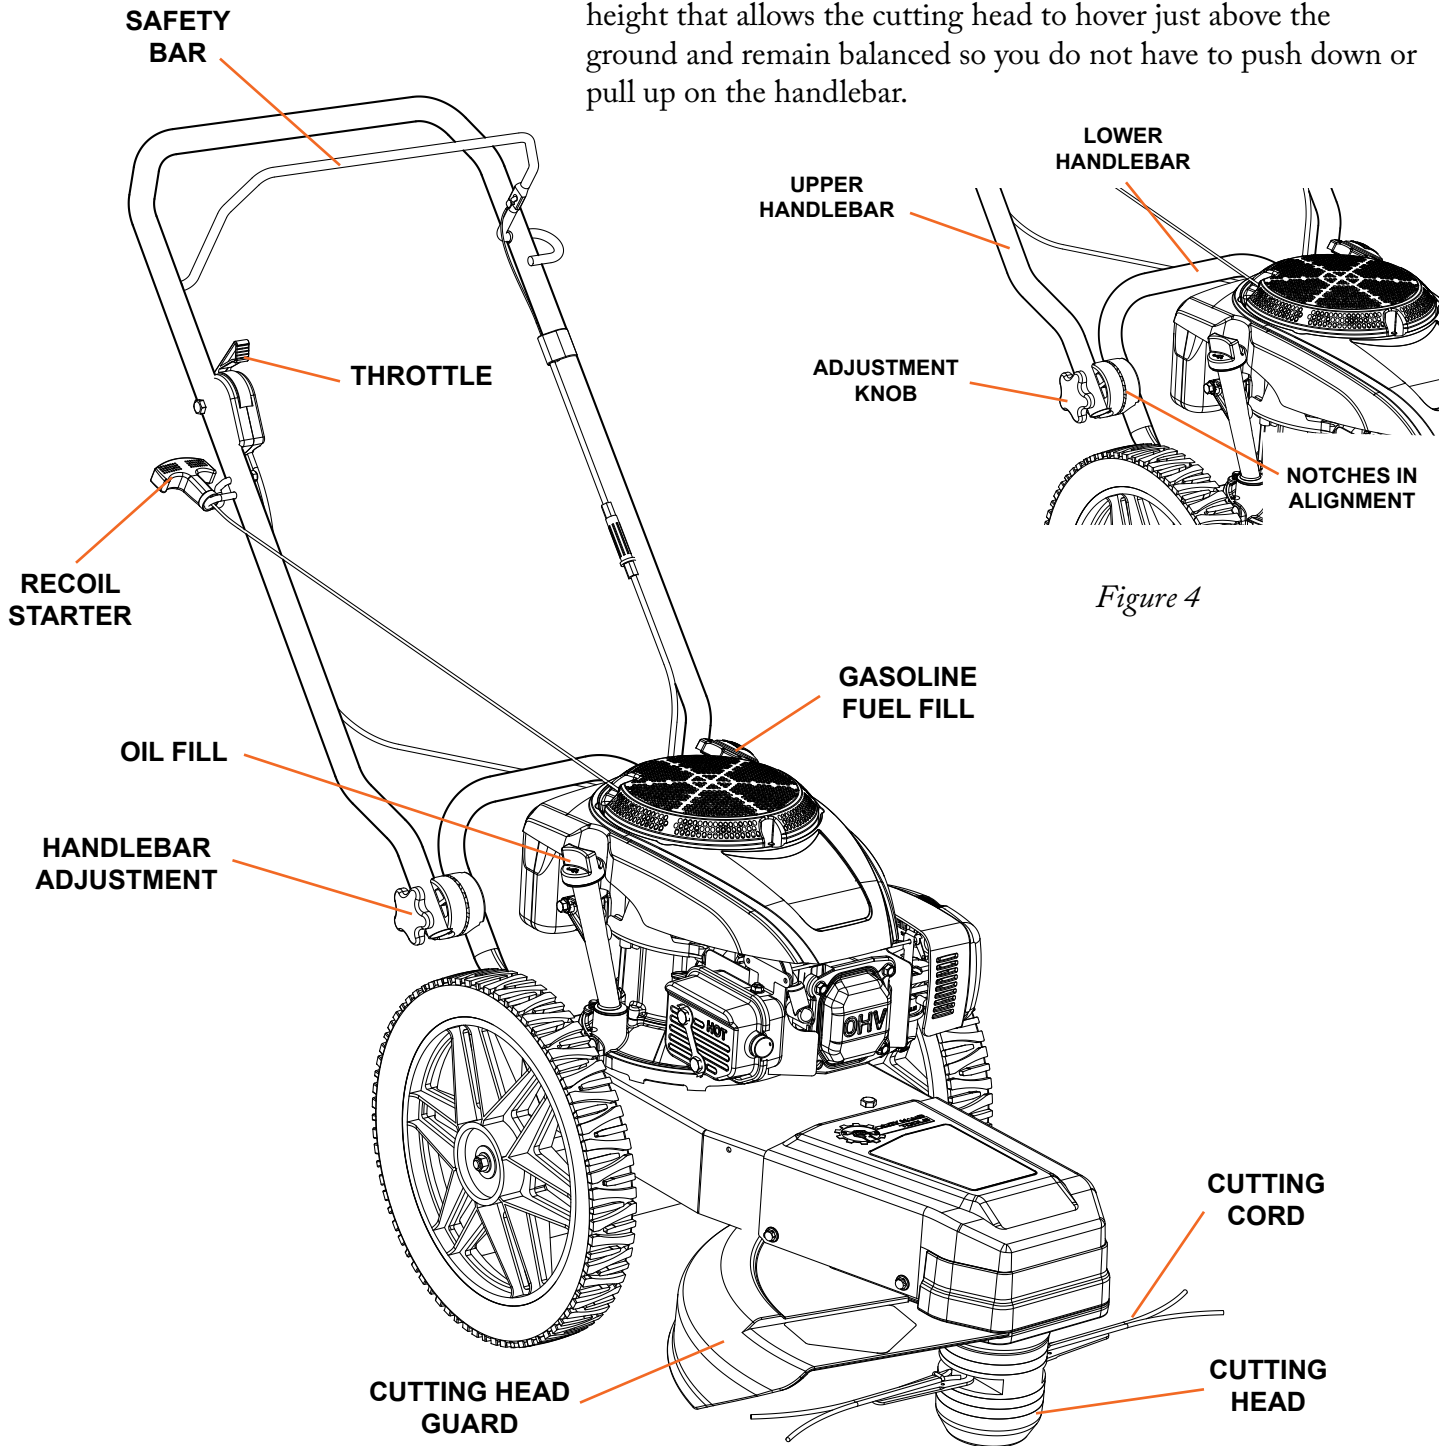

Figure 4
4. Flip handlebar up to the operating position. Loosen both adjustment knobs (see Figure 4) and align the handlebar both sides to a comfortable operating position. Tighten the adjustment knobs securely. It is important to find a handlebar height that allows the cutting head to hover just above the ground and remain balanced so you do not have to push down or pull up on the handlebar.